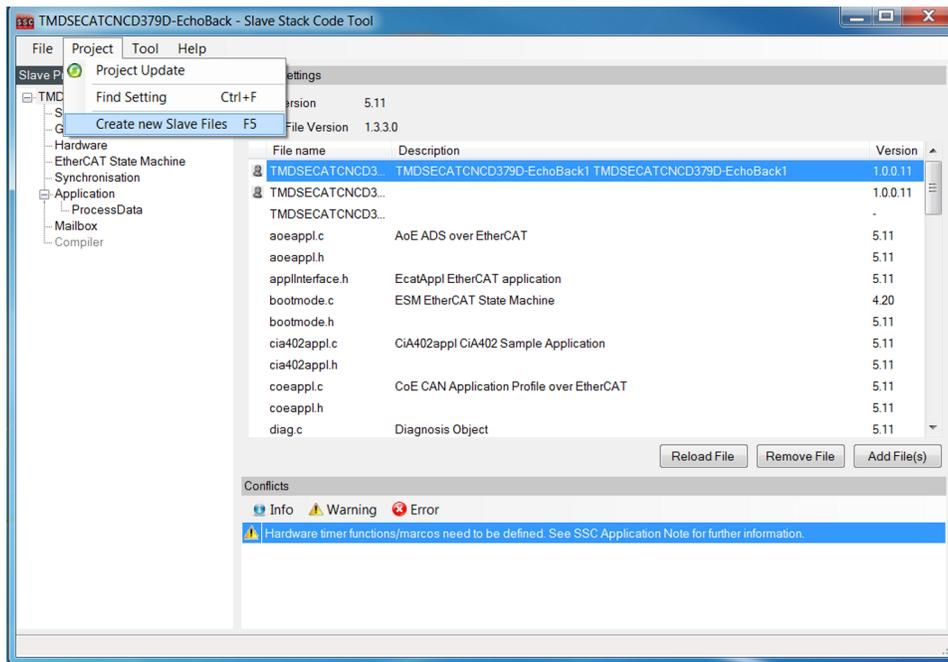

Figure 14. Create New Slave Files
7. Select Project → Create new Slave Files (see Figure 14).